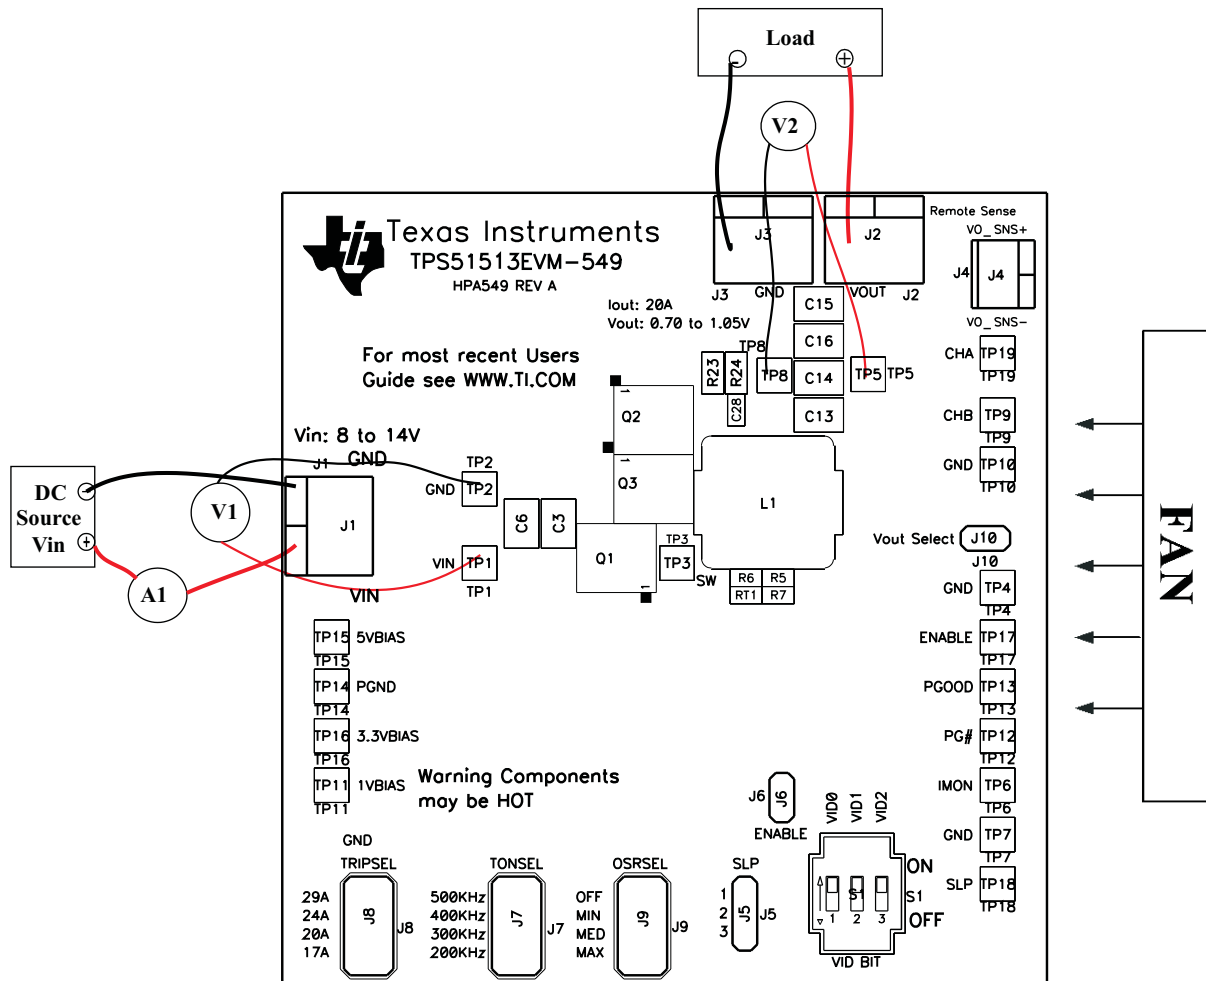

Figure 4. TPS51513EVM-549 Recommended Test Set Up
**Voltage Source:** The input voltage source  $V_{in}$  must be a 0-V to 14-V variable dc source capable of supplying 10 A dc. Connect  $V_{in}$  to J1 as shown in Figure 4.
**Multimeters:** A 0-V to 14-V voltmeter (V1) must be used to measure  $V_{in}$  at TP1 ( $V_{in}$ ) and TP2 (GND). A 0-V to 5-V voltmeter (V2) is necessary for  $V_{out}$  measurement at TP5 ( $V_{out}$ ) and TP8 (GND). A 0-A to 10-A current meter (A1) as shown in Figure 4 is used for input current measurements.
Figure 4 is the recommended test set up to evaluate the TPS51513EVM-549. Working at an ESD workstation, ensure that any wrist straps, bootstraps, or mats are connected, referencing the user to earth ground before handling the EVM.
1. Prior to connecting the dc input source  $V_{in}$ , it is advisable to limit the source current from  $V_{in}$  to 10 A maximum. Ensure that  $V_{in}$  is initially set to 0 V as shown in Figure 4.
Place a fan as shown in Figure 4, and turn it on, ensuring that air is flowing across the EVM.